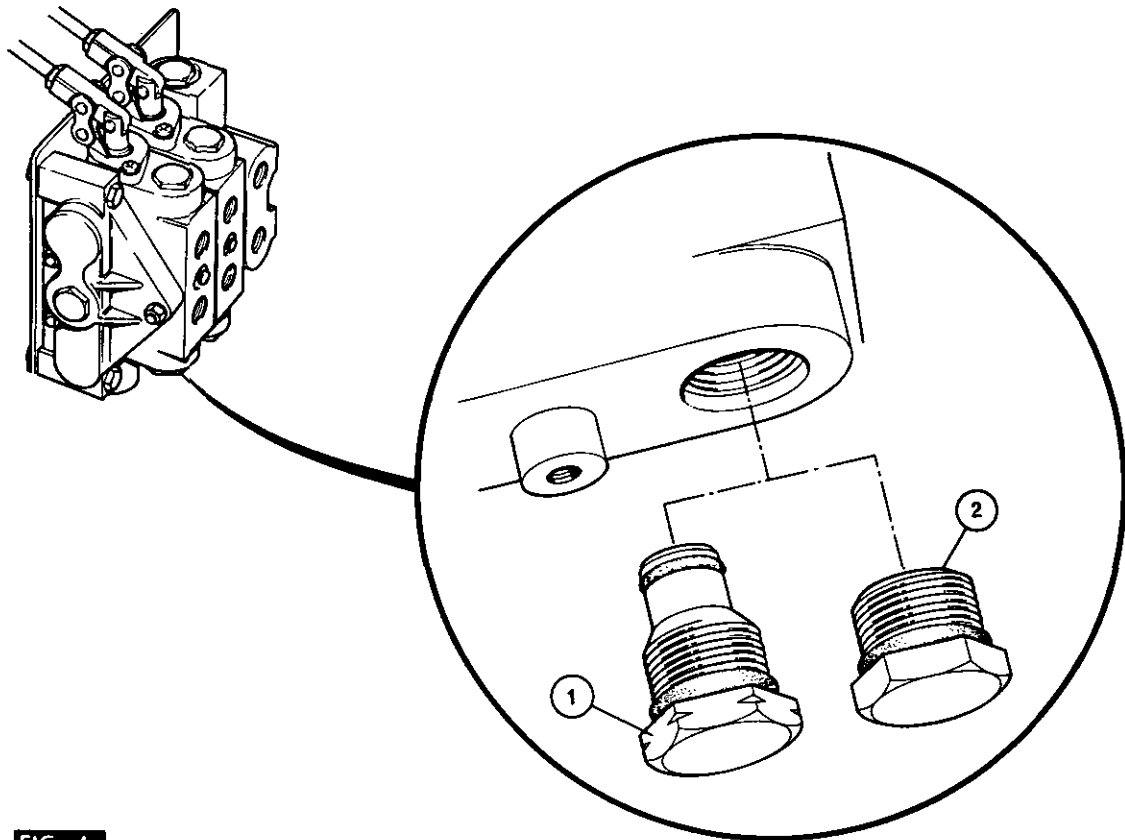

FIG. 1
- \*\* 1. Fig. 1. Remove the special  $\frac{7}{8}$ –14 UNF plug (1) from the bottom of the spool valve.
2. From the spool valve kit, fit the standard  $\frac{7}{8}$ –14 UNF plug (2) (without a spigot), to the hole at the bottom of the spool valve.
- \*\* 3. If the outlet hose kit is not being fitted, also fit the  $\frac{3}{4}$ –16 UNF plug (11) from the kit, to the lower, outlet port on the spool valve.
**DO NOT LOSE, OR DISCARD THE SPECIAL  $\frac{7}{8}$ –14 UNF PLUG (1), AS THIS MAY BE REQUIRED AT A LATER DATE FOR THE VALVE TO BE USED FOR DOUBLE ACTING OPERATION.**
1. Fig. 1. Thoroughly degrease the threads on the operating levers and the cranks, then apply two drops of Loctite Grade AV 'Stud Lock' (Red) to the threads before assembly. Screw the operating lever(s) (4) into the crank(s) on the spool assembly (5). Tighten the locknut(s) (6).
2. Locate the spool assembly (5) against the mounting bracket (7) and secure it with three  $\frac{3}{8}$  UNF x 70 mm (2 $\frac{3}{4}$  in) bolts (8), plus flat washers, lock washers and nuts.
3. Attach the location plate (9) to the bottom of the mounting bracket (7), through the inner hole (nearest the tractor, when fitted), using a  $\frac{3}{8}$  UNF x 32 mm (1 $\frac{1}{4}$  in) bolt (10) plus a flat washer, lockwasher and nut.
6. Locate the spool valve mounting bracket and secure it to the footplate, with two  $\frac{3}{8}$  UNF x 38 mm (1 $\frac{1}{2}$  in) bolts (11) through the footplate mounting bracket holes and a further  $\frac{3}{8}$  UNF x 32 mm (1 $\frac{1}{4}$  in) bolt (10) through the front hole into the footplate, plus a flat washer, lockwasher and nut for each.
7. Adjust the position of the operating levers (4) to clear the seat and to suit the operator.